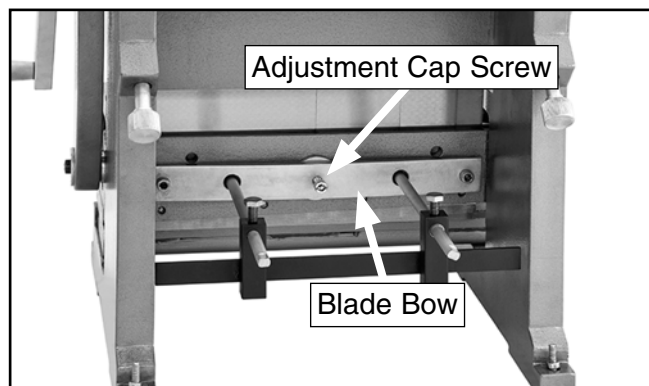

Figure 49. T26472Z blade bow adjustment screw.
The blade bow is used to remove any slight bow in the cast-iron cross beam to which the brake finger receiver and upper shear blade are attached (see **Figure 49**). It should be adjusted if the shear blade does not cut evenly across its entire length. Before adjusting the blade bow, perform the shear test cut described in **Checking Blade Gap** on **Page 30**.
1. If shear test cut was clean on ends of shear blade but not in center, rotate adjustment cap screw (see **Figure 49**) clockwise $\frac{1}{8}$ turn at a time, then retest and re-adjust as necessary until paper cuts cleanly along entire length of blades.